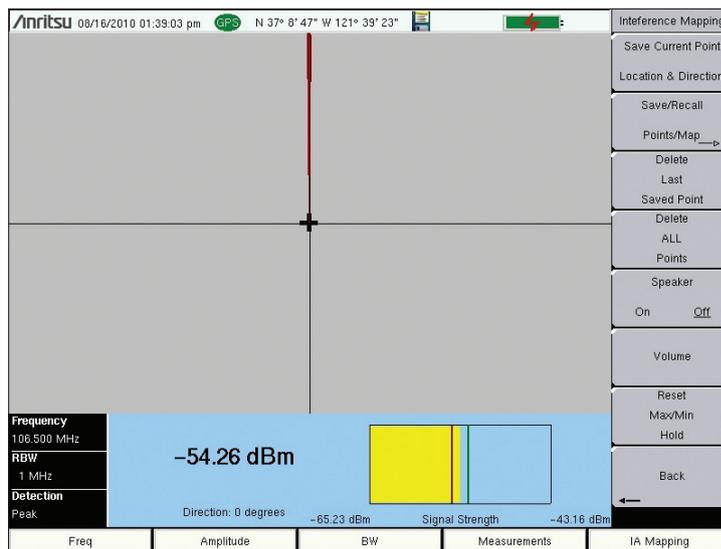

Figure 6: Interference Mapping Menu
5. The instrument then turns on Interference Mapping, and by pressing **Interference Mapping** once again, you enter the Interference Mapping menu. (Figure 6)